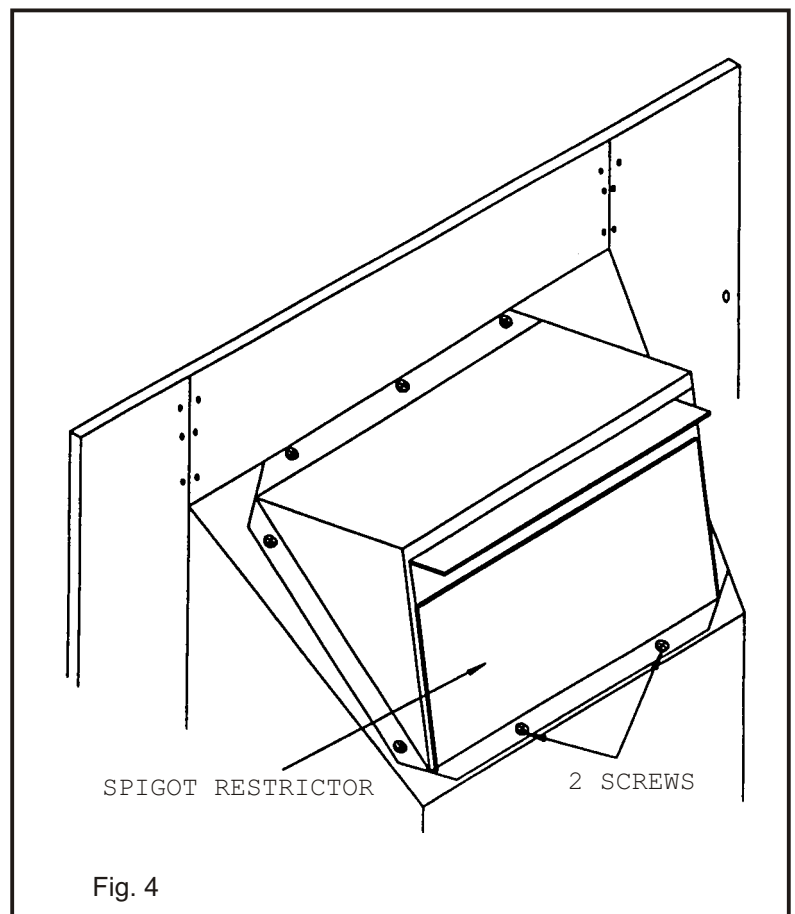

Fig. 4
**DO NOT** fit the spigot restrictor if installation is to a **PRE-CAST FLUE** or a **METAL FLUEBOX/5 INCH FLUE**. Fit the spigot restrictor if applicable using 2 screws (Fig. 4).